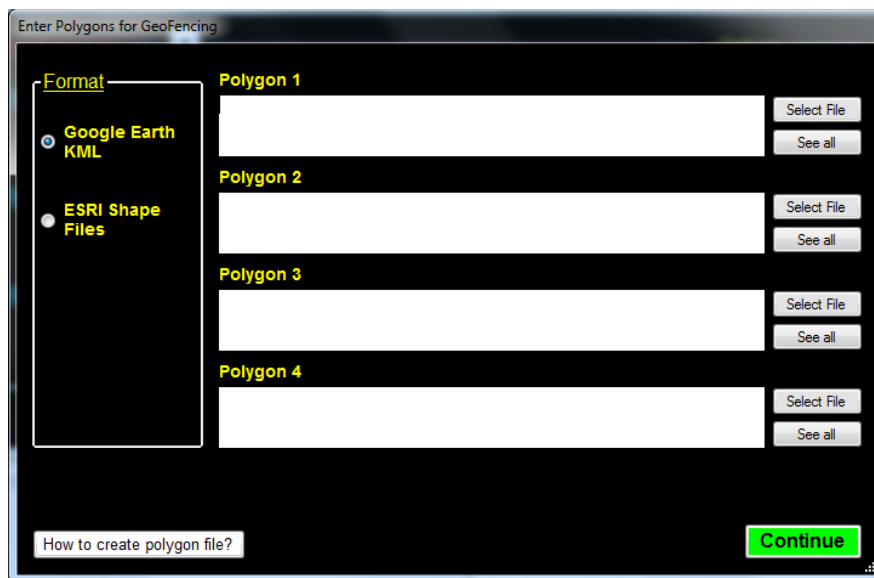

Figure 12. Enter Polygons for Geofencing window
2. On the “Fix Schedule, Options, Estimate Life: 2” page, click on the Use Geofencing bubble in the Options box. This will take you to the following screen (Figure 12):